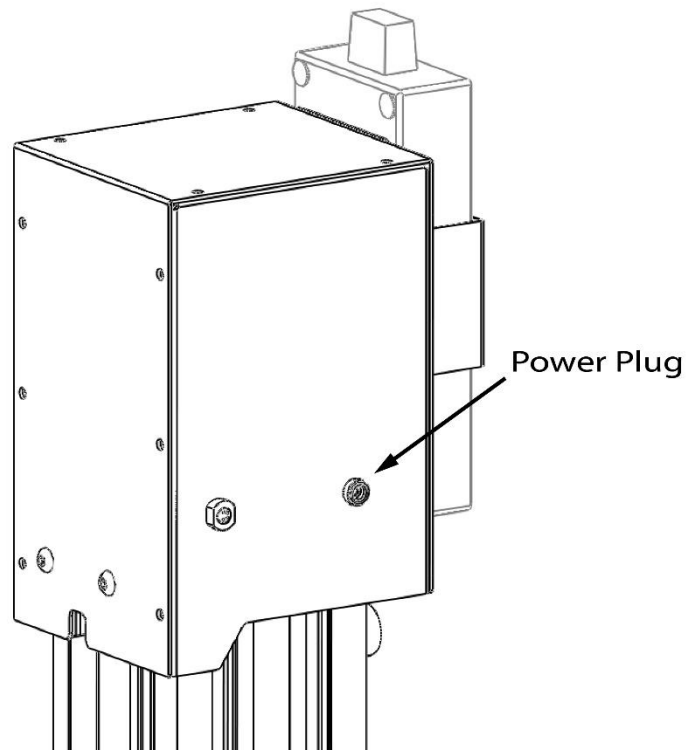

Figure 4: Top power plug and power supply bracket
9. Locate the power supply bracket in the power supply box and mount it to either the top cover or motor cover of the stand (depending on which power plug you will be using), with the included M4 screws from the same box and a 2.5 mm hex wrench. See **figures 4 and 5**.
10. Plug the power supply unit into an electrical socket and one of the three power plugs on the stand (**figures 4 and 5**).